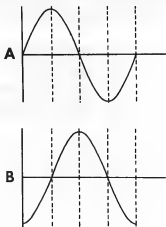

Figure 2-101
12. In Figure 2-101, the waveform in A is leading the waveform in B by: